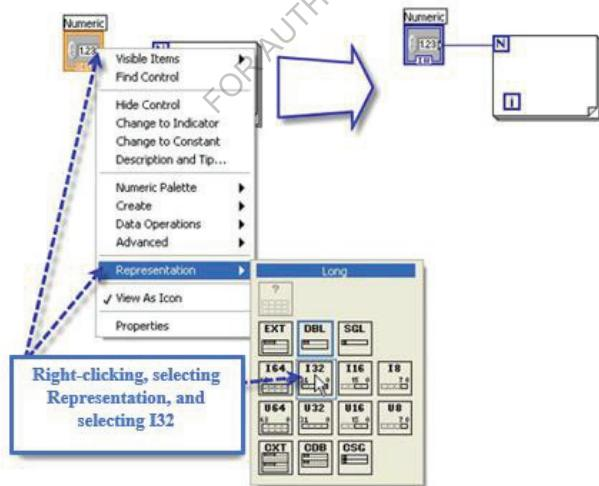

Figure 2.119: Change Type of Terminal
- 1- Change the terminal type data connected to the Count Terminal **N** by right-clicking, selecting **Representation**, and selecting **I32**, as shown in figure 2.119.